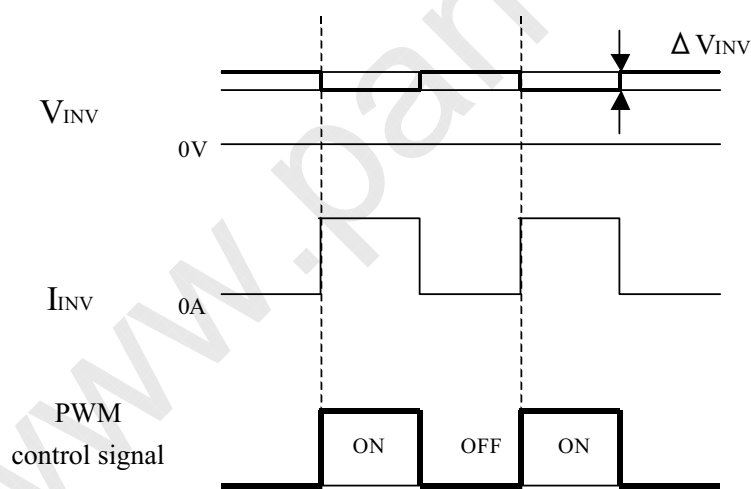

Fig.4 Brightness control voltage
- Brightness control voltage is switched for "ON" and "OFF", as shown in Fig.4. Voltage difference generated by this switching, ΔV_{INV} , may affect a sound output, etc. When the power supply is shared between the inverter and its surrounding circuit. So, separate the power supply of the inverter circuit with the one of its surrounding circuit.